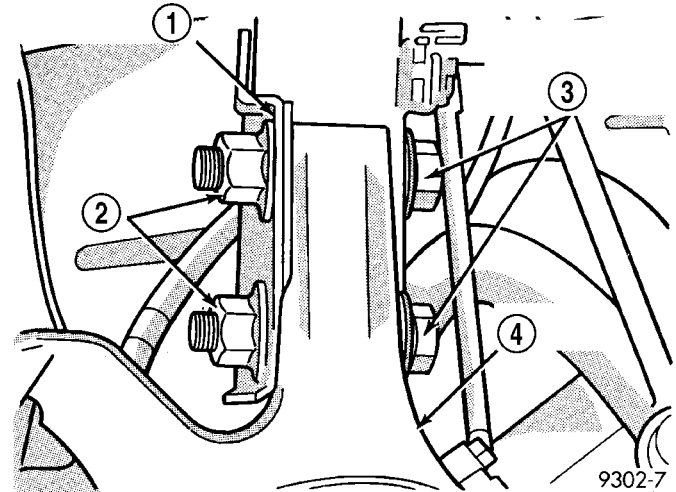

Fig. 15 Strut Assembly to Steering Knuckle Attaching Bolts
(7) Install the strut assembly to steering knuckle attaching bolts. Install nuts on attaching bolts (Fig. 15). Tighten the strut assembly to steering knuckle bolt nuts to 210 N·m (155 ft. lbs.). **TURN NUTS ON BOLTS. DO NOT TURN BOLTS.**